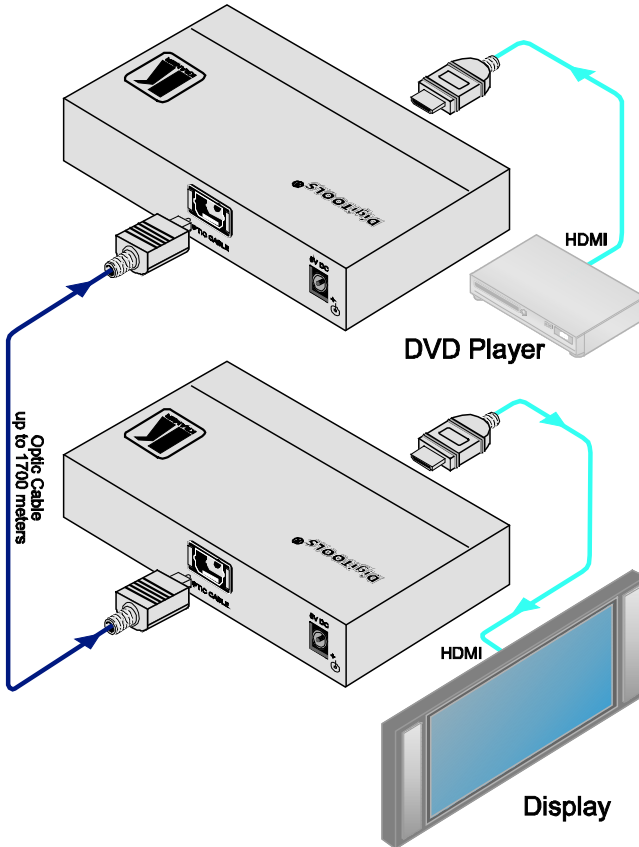

Figure 3: Connecting the 670T/670R Transmitter/Receiver System
To connect the **670T** and **670R**, as illustrated in the example in Figure 3, do the following:
4. Connect the 5V DC power adapter to the power socket on each unit and connect the adapter to the mains electricity (not shown in Figure 3).